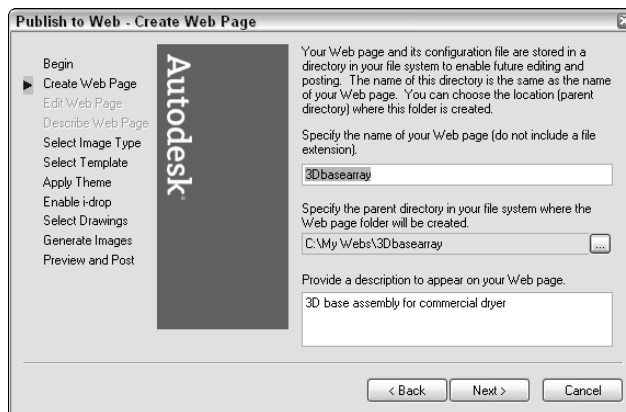

**Figure 28-9:** On the Create Web Page screen, specify where you want to create your Web page on your own computer system, and create a description of the page.
3. On the Create Web Page screen, shown in Figure 28-9, type a file name for the Web page. (This action creates a folder with this name and places all of the files for the Web page in the folder.) Then click the ellipsis button (...) to navigate to where you want to create this file. If you already store Web page files on your system, you can use the same location. Finally, add a description that will appear on the Web page. Click Next.